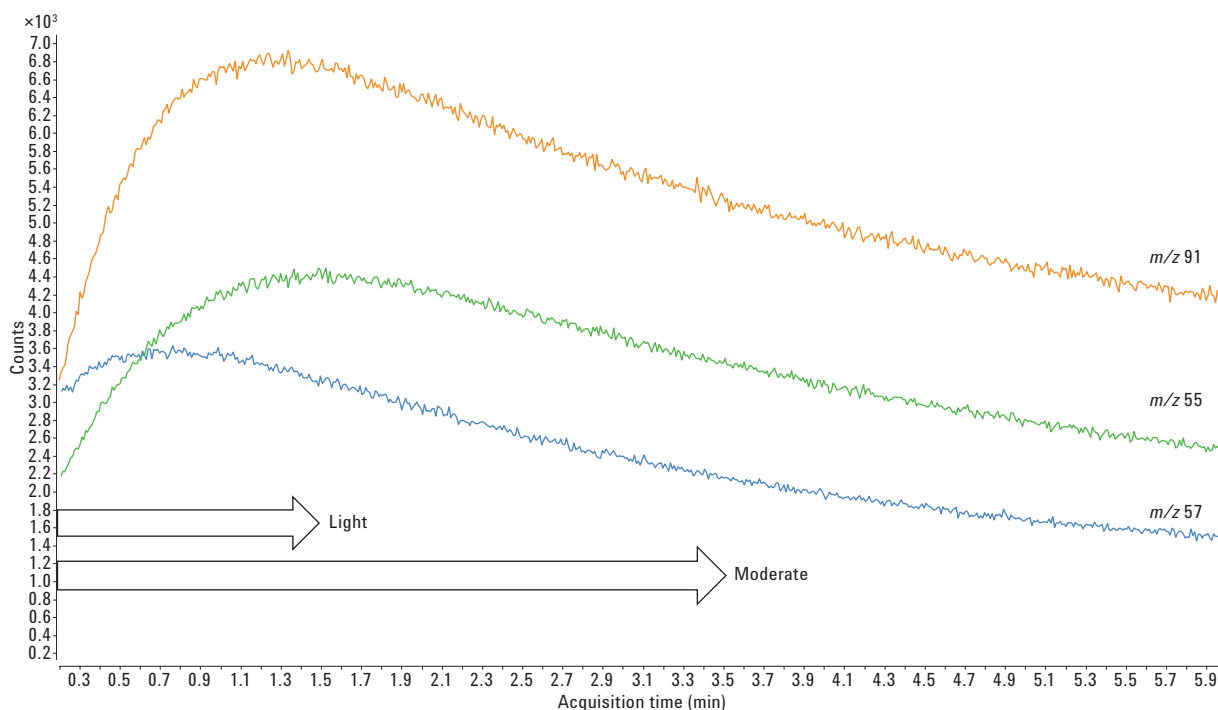

Figure 9. EICs for Clean Only JetClean for the Agilent 5977B SQ-HES over the range of 0 to 6 minutes.
In Clean Only mode, a data file is acquired during the treatment process as a record. Interpreting this record provides a great deal of insight into the status of the source, and how it is changing as the treatment is applied. The familiar MS parameters can be edited to record the data file, and these should be set before entering the Clean Only mode. Scan mode acquisition provides the most comprehensive record until ions that represent good indicators of the routine source contamination are discovered. If these ions are found, SIM is preferred. The upper end of the mass range need not extend past a few hundred m/z ($< m/z$ 500), with 300 m/z usually being sufficient. The usual lower end is 45 or 50 mass units. Starting the scan at mass 29 (TQ, with lowered mass cutoff of 30) or 28 (SQ) can be used to monitor hydrogen indirectly through the formation of N_2H^+ (m/z 29) to confirm that hydrogen is being applied. A number of unusual species formed and readily measured in SQ are H_3^+ (m/z 3), HeH^+ (m/z 5), ArH^+ (m/z 41), and so forth. The scan speed should be very low; one scan per second is adequate to keep the datafile small, and still record the changes in time. Figure 9 shows an example of such data. It is important to set the gain factor (GF) according to the scan range and source type: low GF if you include N_2 or N_2H , and an increased GF based on the species intensities seen in the scan window.